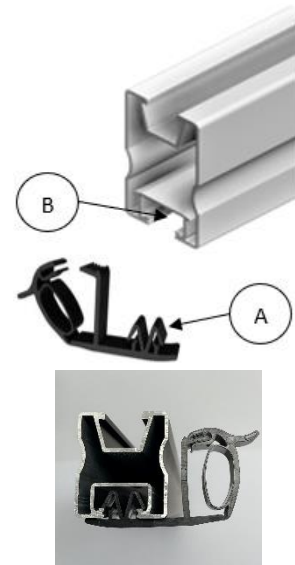

Fig 4.4.3: Rail cable clip attached to Proline rail
- I. Position the clip (A) of the rail cable clip underneath the bottom (rectangular) channel (B) of the Proline rails.
- II. Insert cable clip by pushing firmly into the channel, until it snaps in, as shown in [Fig 4.4.3].